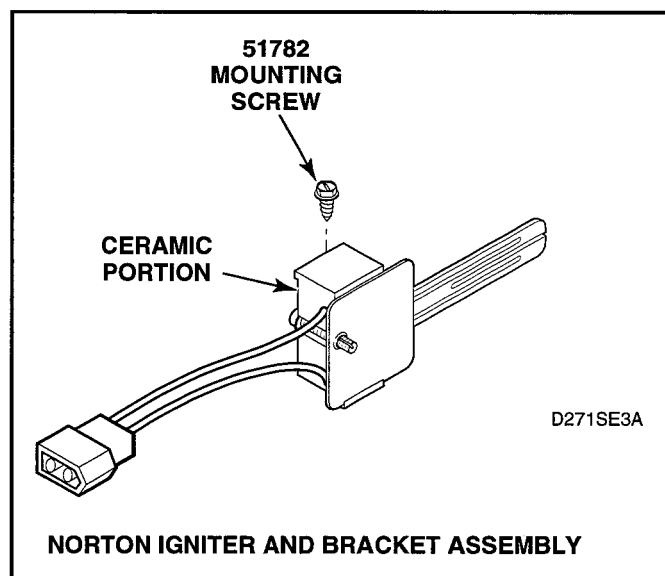

Figure 7-6
- Norton Igniter** – meter should read between 45 - 200 Ohms. See figure 7-6.